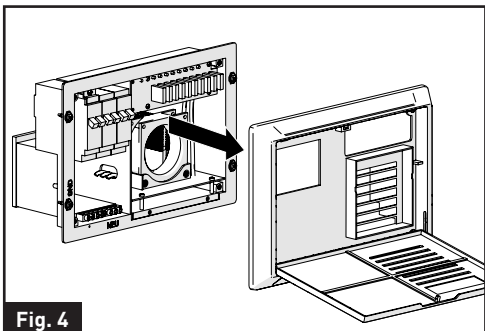

Fig. 4
5. Pull to remove the housing from the unit. (Fig. 4)